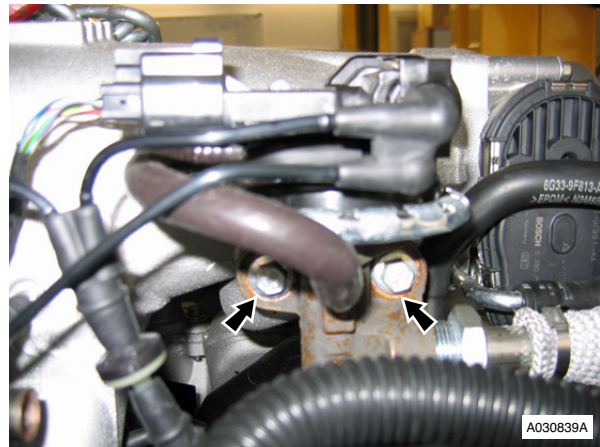

Fig. 3
4. Remove bolts (x2) securing EGR module to inlet manifold, remove EGR valve, remove and discard gasket (see Fig. 3).